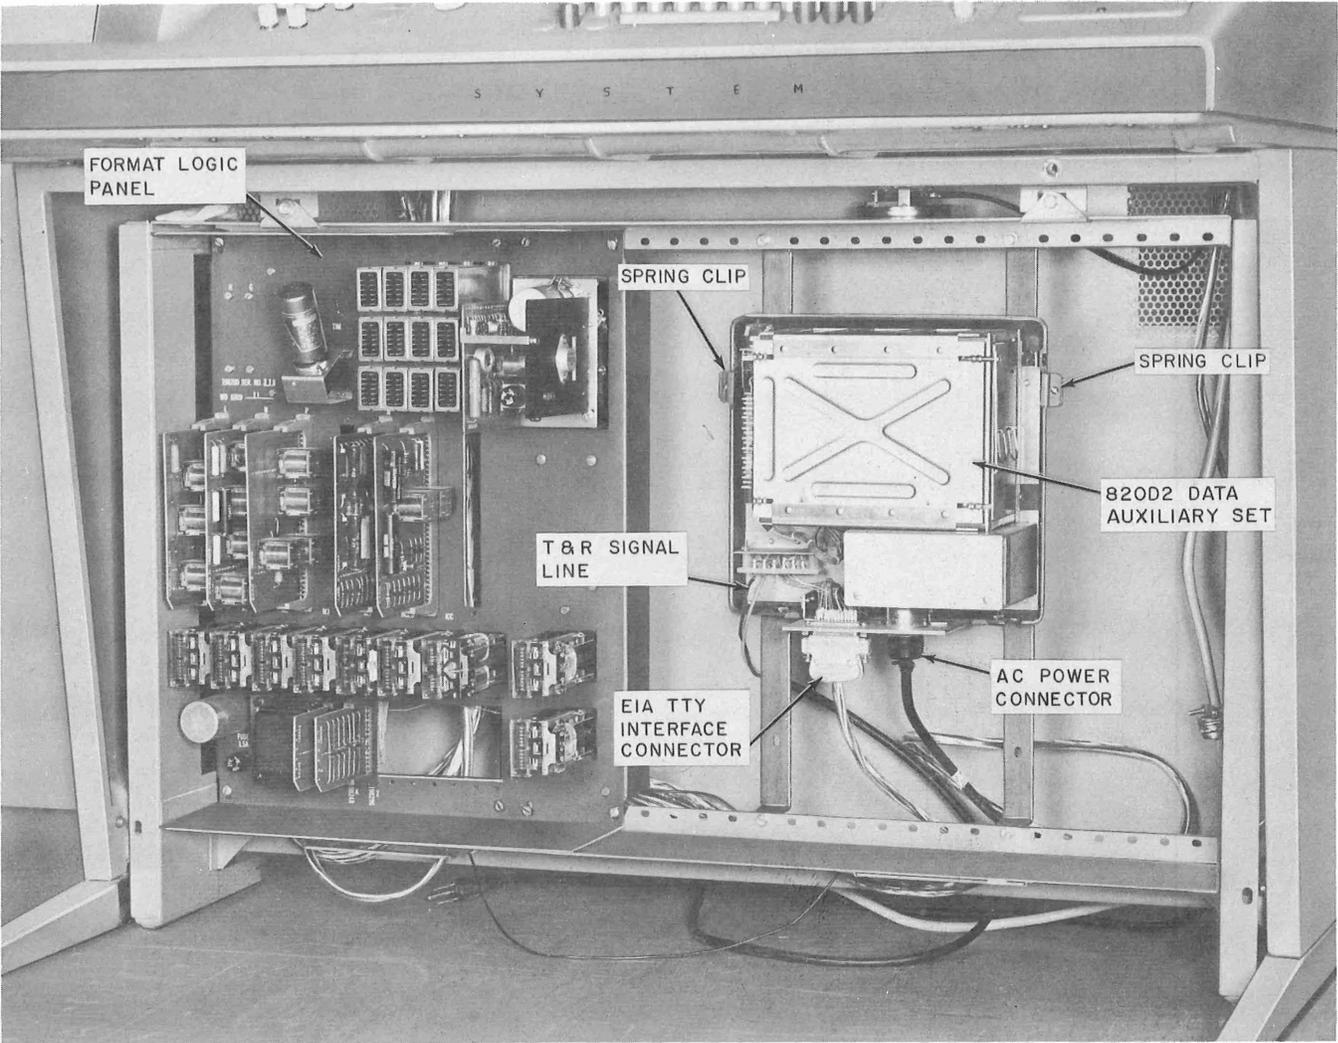

Fig. 2—Data Auxiliary Set 820D2 Mounting
**2.02** Refer to Fig. 2 and the following procedures for removal of Data Auxiliary Set 820D2.
- (c) Disconnect the signal line tip (T) and ring (R) connections from terminals 1 and 2 of terminal strip A.